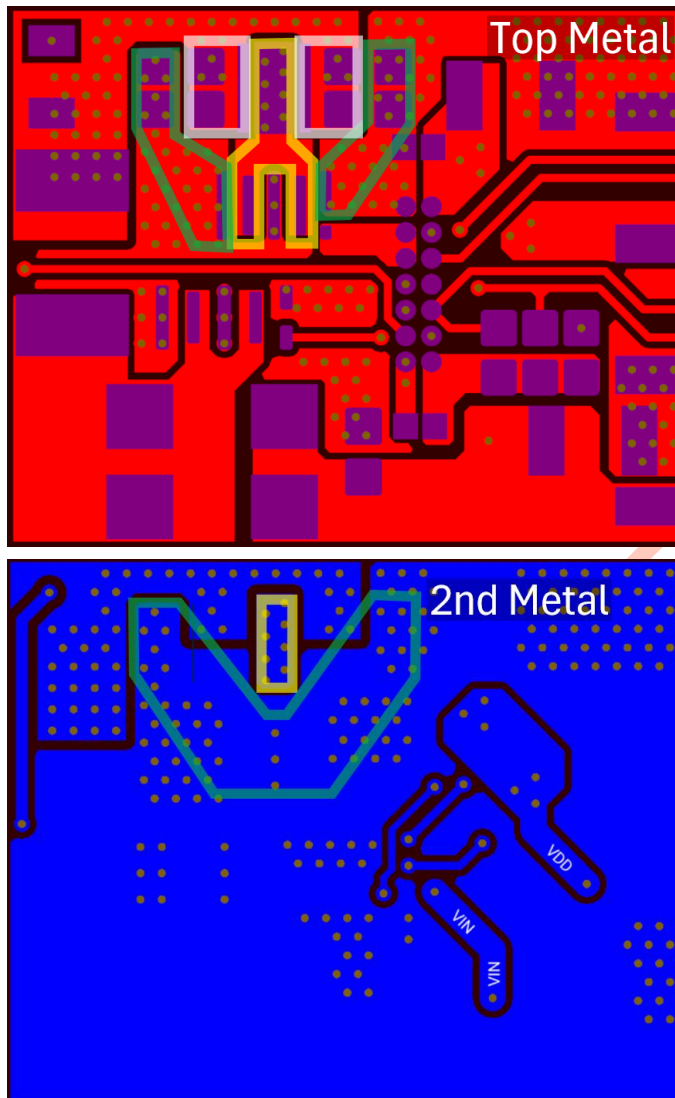

Figure 12: Top and second metal layout drawing for a board with components on top only
1. Laser firing loop: In Figure 12 below, note the key paths marked in yellow (path from Fire FET drain to cathode of laser), green (path from negative terminal of Cres capacitors to source of Fire FET) and white (path from the positive terminal of the Cres capacitors to the anode of the laser).